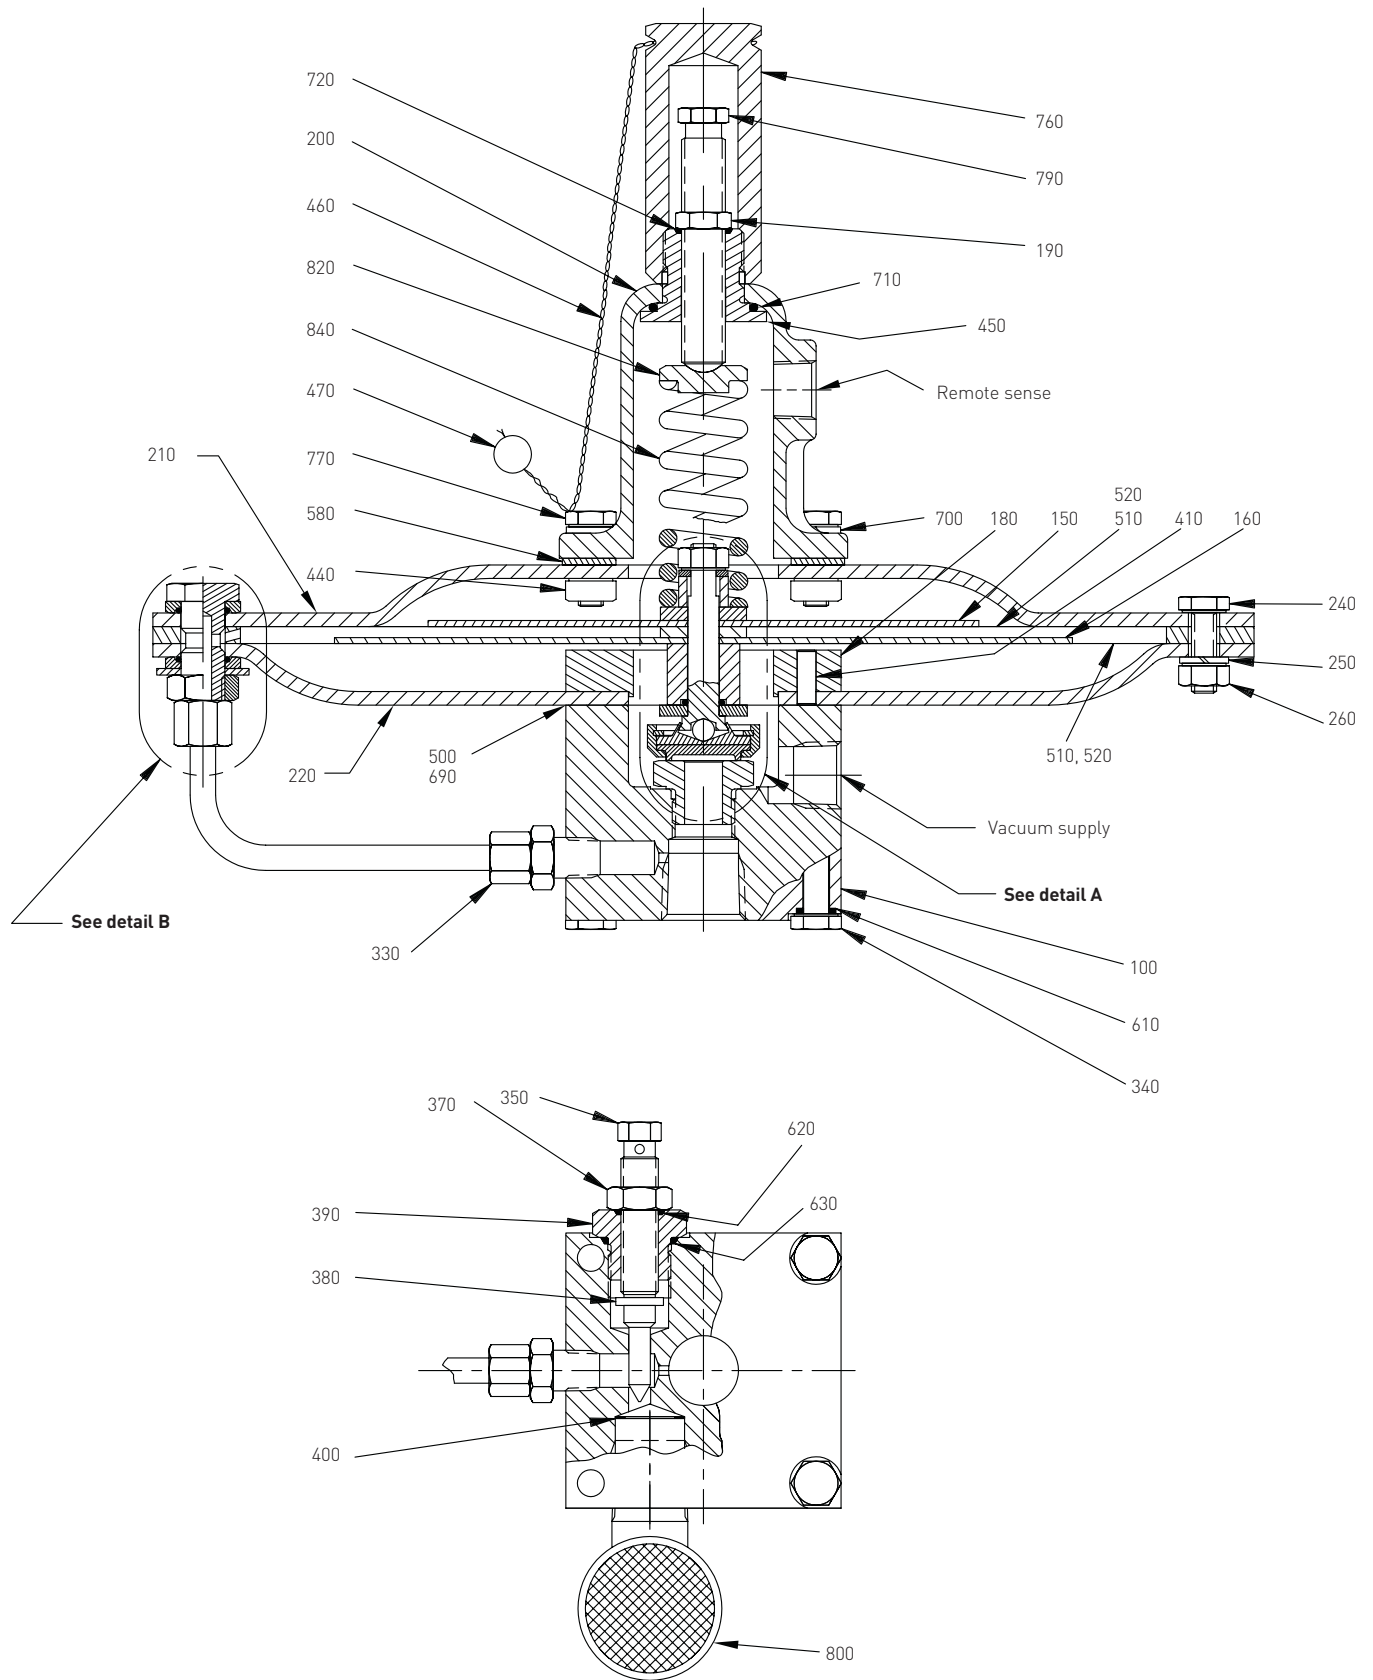

FIGURE 9
- Refer to Figure 9 or 10. For the 93 pilot, one diaphragm gasket (650) is used on each side of the spacer ring. For the 93T pilot, one diaphragm gasket is used on each side of the boost diaphragm (510) and sense diaphragm (510).